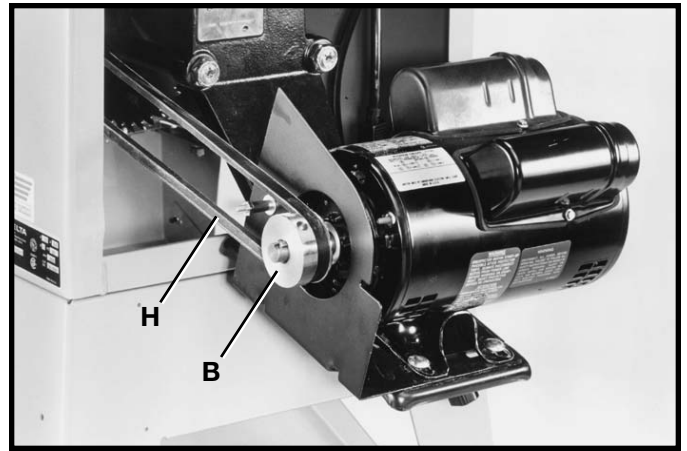

Fig. 23
7. Lift the motor and assemble the drive belt (H) Fig. 23, to the arbor pulley and motor pulley (B). The weight of the motor will provide the correct belt tension.